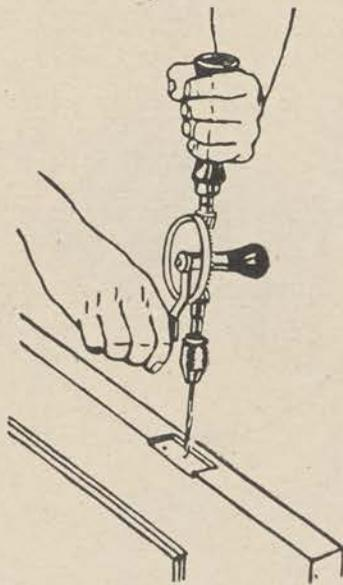

Figure 78.
a. For rapid drilling of small holes, the hand drill with 6 or 8 bits of assorted sizes is recommended (fig. 78). The hole should be started with an awl to keep the bit from slipping. Pressure must be light and the crank turned at an even speed. Learn to hold the drill steady so that the hole will be straight. If the drill is permitted to wobble the hole will be enlarged and the bit may break.